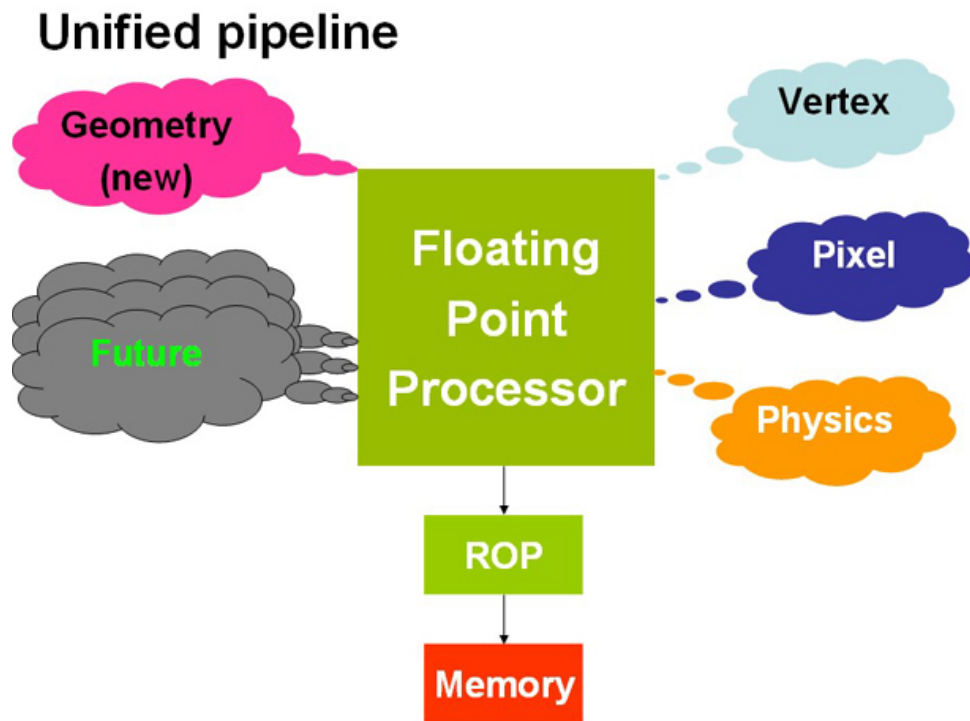

Figure 17. Conceptual Unified Shader Execution Framework
Anisotropic Filtering (AF) improves the clarity and sharpness of various scene objects that are viewed at sharp angles and/or recede into the distance (Figure 17). One example is a roadway billboard with text that looks skewed and blurred when viewed at a sharp angle (with respect to the camera) when standard bilinear and trilinear isotropic texture filtering methods are applied. Anisotropic filtering (combined with trilinear mipmapping) allows the skewed text to look much sharper. Similarly, a cobblestone roadway that fades into the distance can be sharpened with anisotropic filtering.